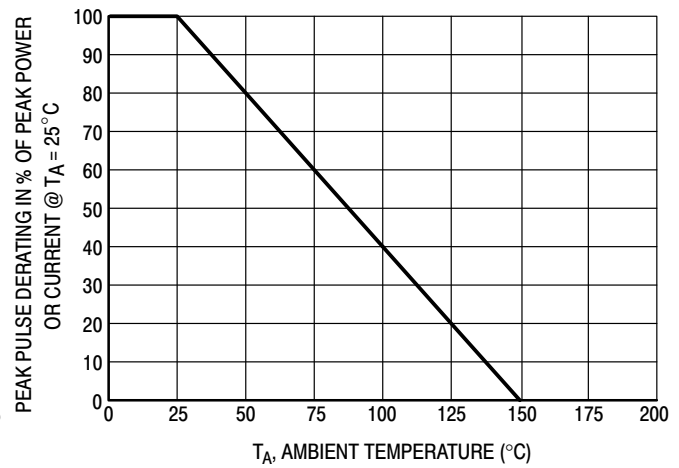
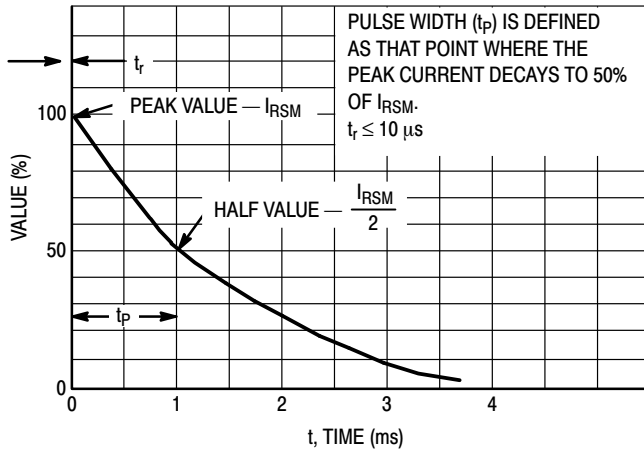
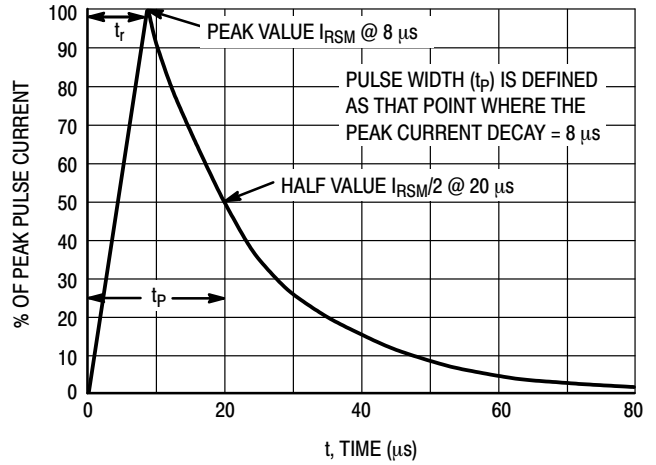

Figure 4. Pulse Derating Curve
Figure 5.  $10 \times 1000 \mu\text{s}$  Pulse Waveform
Figure 6.  $8 \times 20 \mu\text{s}$  Pulse Waveform
- Peak Power – Min. 24 W @ 1.0 ms (Unidirectional), per Figure 5 Waveform
- Peak Power – Min. 150 W @ 20  $\mu$ s (Unidirectional), per Figure 6 Waveform
1. Non-repetitive current pulse per Figure 5 and derate above  $T_A = 25^\circ\text{C}$  per Figure 4.
2. Non-repetitive current pulse per Figure 6 and derate above  $T_A = 25^\circ\text{C}$  per Figure 4.
8. Surge current waveform per Figure 5 and derate per Figure 4.